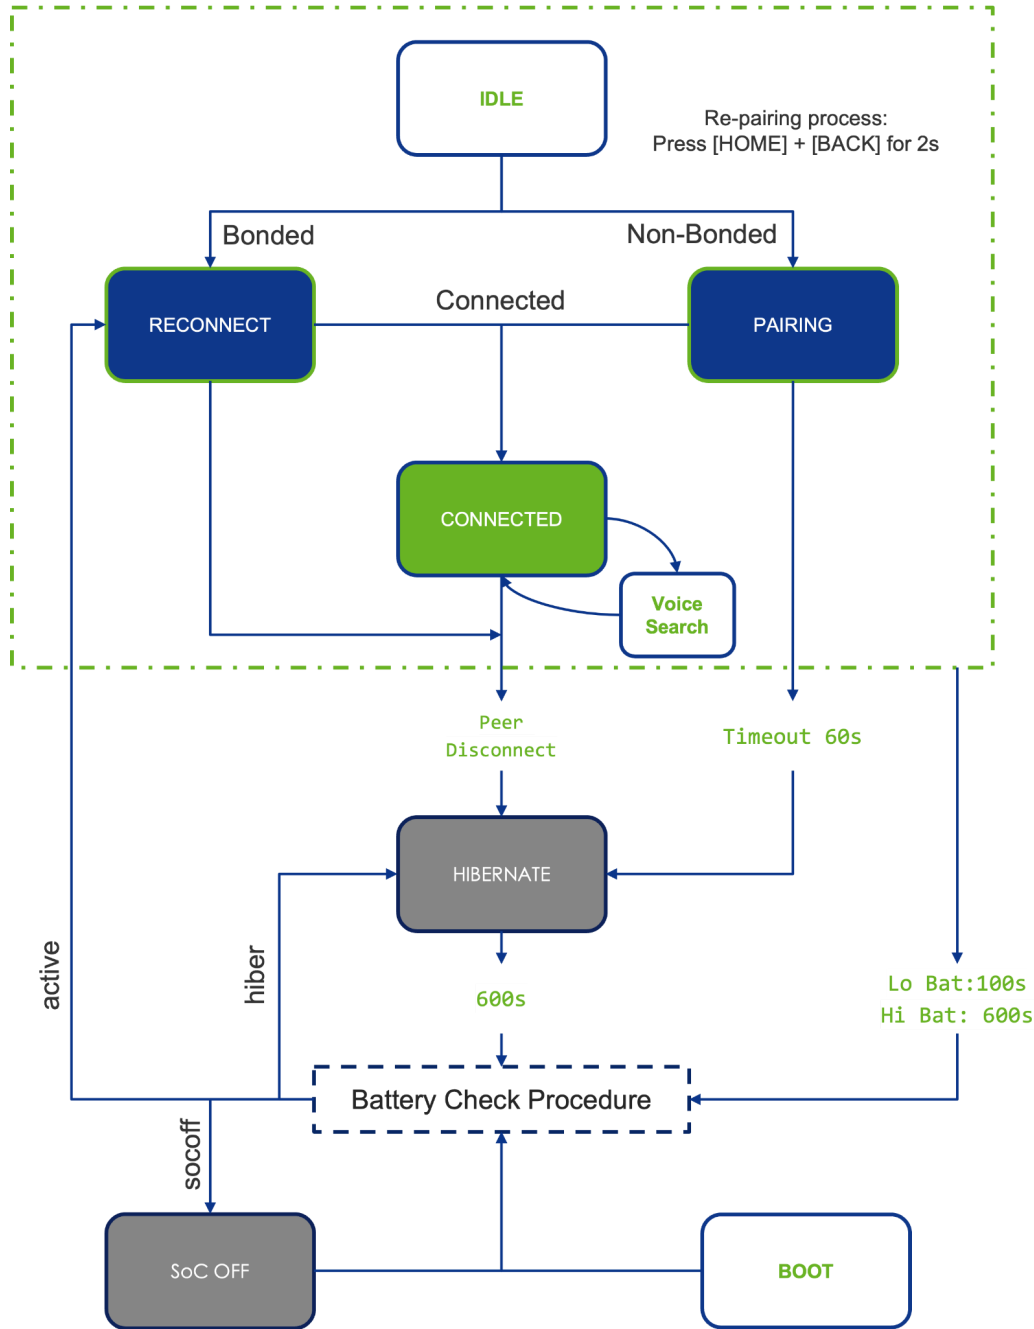

Figure 6 - Remote Control State Machine
- Figure 6 - Remote Control State Machine
The state machine for the Remote Control is depicted in Figure 6. Upon power-up, the Remote Control will automatically enter the pairing state if it has not already been paired. If previously paired, it will attempt to reconnect and enter hibernation if it cannot connect in 1.28 seconds. From the pairing state, it will time out after 60 seconds if the pairing is not completed. A keypress on the Remote Control is required to exit the hibernation state and restart the reconnection or pairing process.